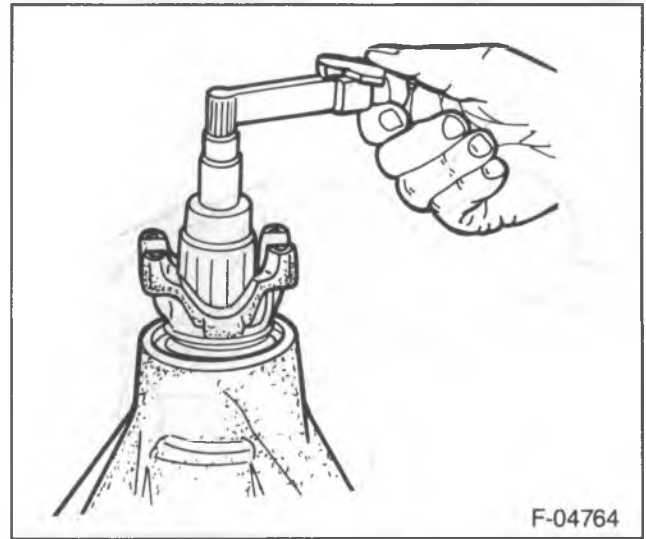

Figure 11—Checking the Pinion Preload
- Drive pinion bearing preload (figure 11).